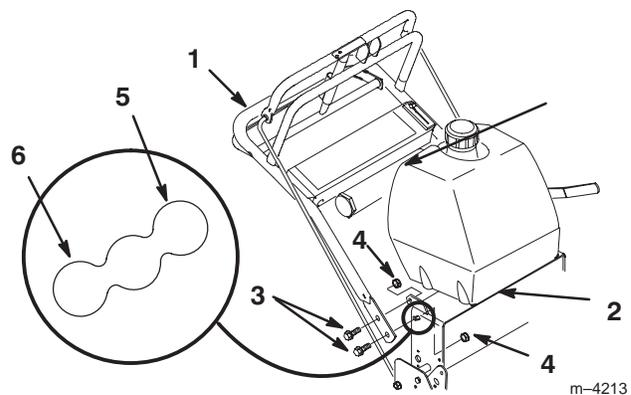

Figure 2
- Position handle outside frame and align upper handle mounting holes with desired mounting holes in rear frame. High, medium or low according to operators height (Fig. 2).
- Secure each side with (2) 3/8-16 x 1" (26mm) bolts and (2) 3/8-16 locknuts (Fig. 2).